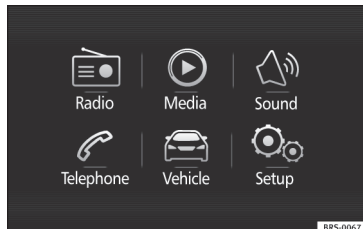

Fig. 43 Easy Connect: Main menu.
- Press the system's **MENU** button, then the system's **Vehicle** function button **» Fig. 43** or the system's **CAR** button to go to the **Vehicle** menu **» Fig. 44**.